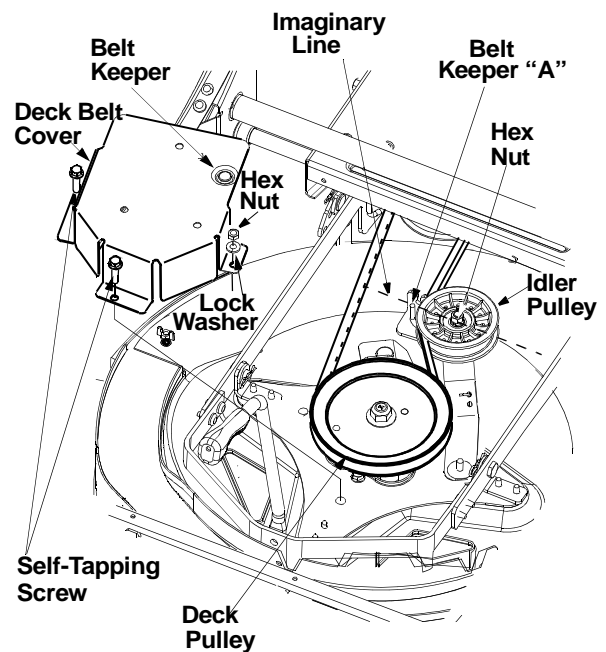

Figure 15
- Using a 1/2" socket wrench, remove two self-tapping screws, lock washer and hex nut that hold the deck belt cover to the deck. See Figure 15. For
- Using a 9/16" wrench, loosen the hex nut on the idler pulley. See Figure 15.
- Place the new belt around the deck pulley and the engine pulley making sure that the belt is routed inside the belt keepers. There are two belt keepers under the grass catcher, one on the idler and the other under the deck belt cover. See Figure 15.
- Make sure to align the belt keeper in line with the frame. See Figure 15.
NOTE: An imaginary line between the belt keeper and idler pulley should be parallel to frame. See Figure 15.